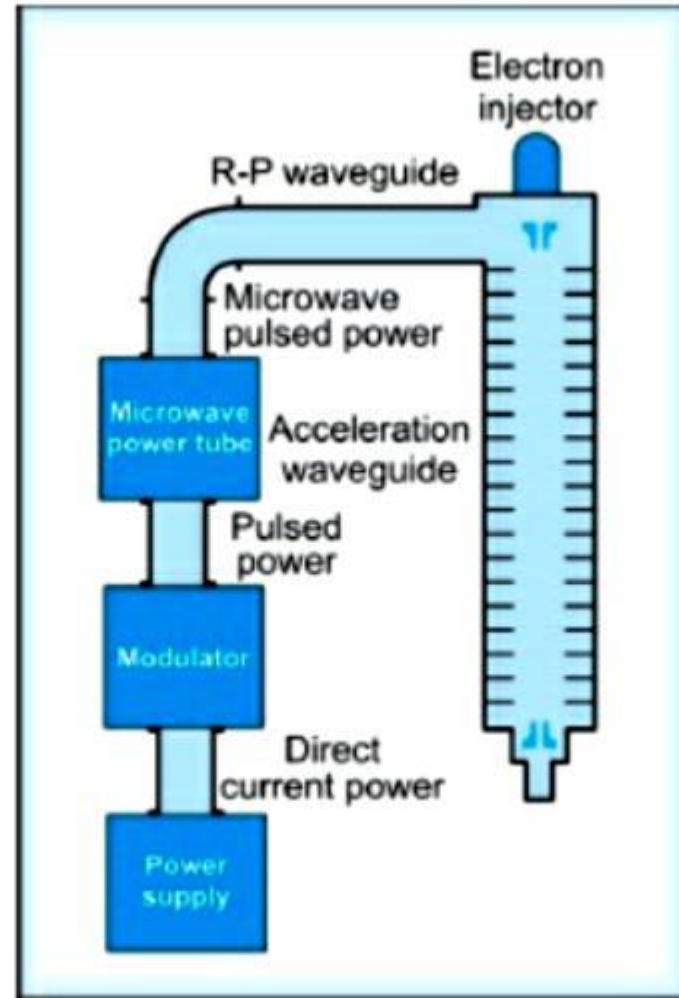

Fig. 22.7: Operating principle of a linear electron accelerator (*Courtesy of High Voltage Engineering Corp*)
- The principle of the **linear accelerator** may be followed from Fig. 22.7.